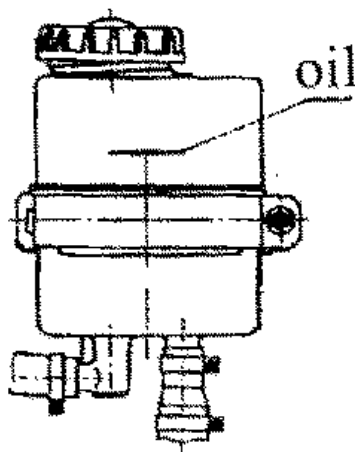

Fig.4-6
(2). Check the lubricating oil level of the steering oil tank (steering oil cylinder fully filled with the oil.) (Fig.4-6)